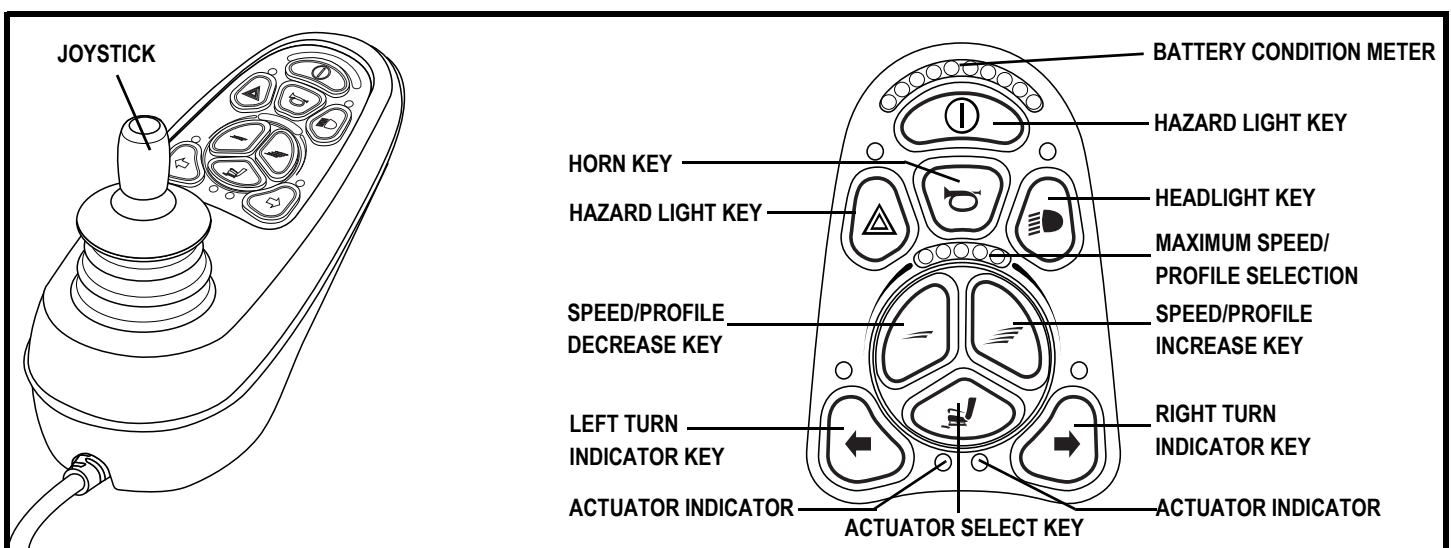

Figure 12. VR2 9-key Controller and Keypad
1. Push the on/off key to power on the chair and the controller. See figure 12.
2. Push the actuator select key to select actuator mode. The left actuator indicator will illuminate. See figure 12. While the left actuator indicator is illuminated, use the switch box as a toggle to select power tilt or power recline.
5. Push the on/off key to return to drive mode. See figure 12.